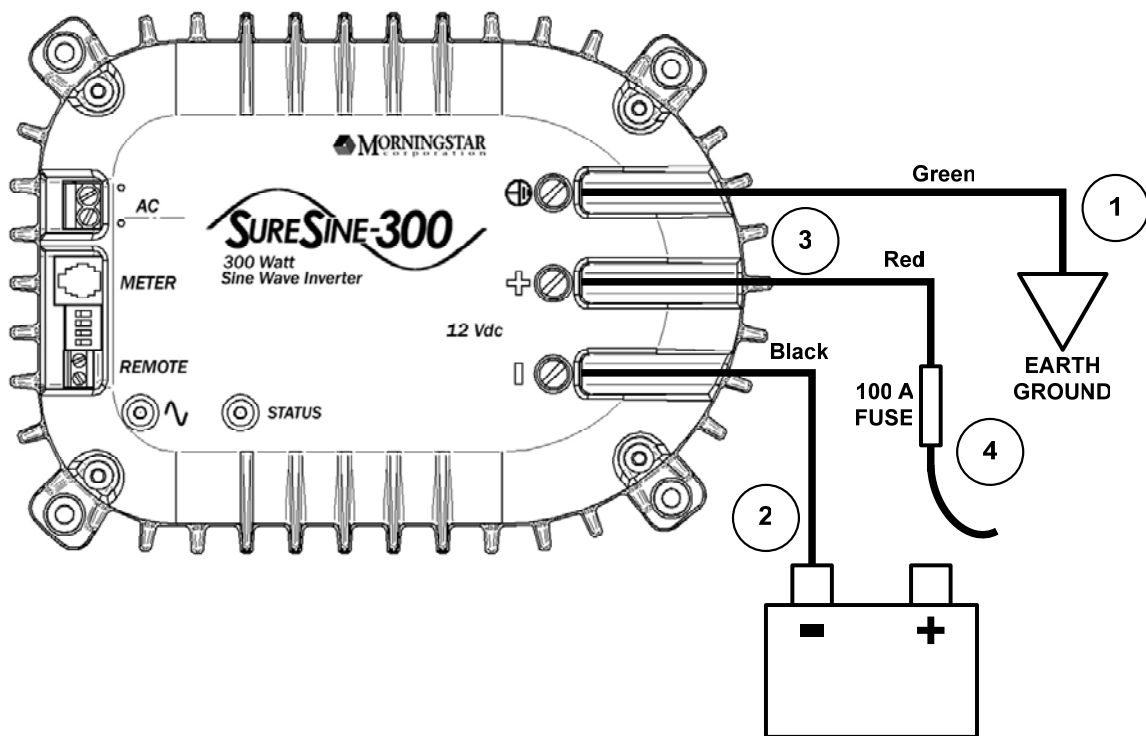

Figure 5 DC Wiring Diagram
DC power cables are not supplied. Use UL Listed wire only; rated for the voltage, current, and wire length needed for the system. Minimum wire gauges have been recommended. Use the appropriate wire color for each DC connection as shown in figure 5.
1. Wire Earth Ground as shown in Figure 5 using UL Listed 4 AWG (25 mm²) or larger green wire. The Earth Ground conductor must be larger than the battery power conductors.